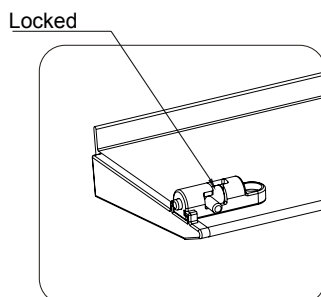
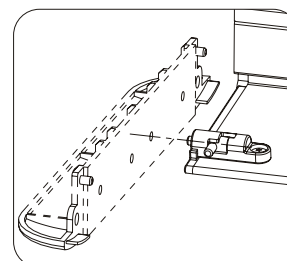

Figure 25
Figure 26
- 3) Unlock the security lock on baffle (figure 25), and align to the corresponding hole in the end cap (figure 26), so the baffle can't move.